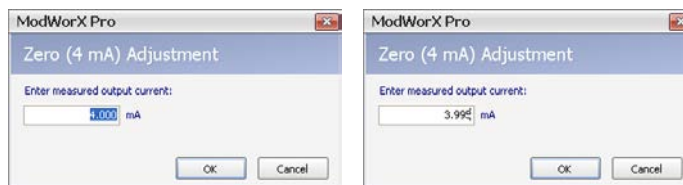
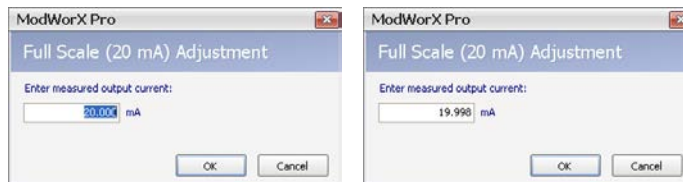
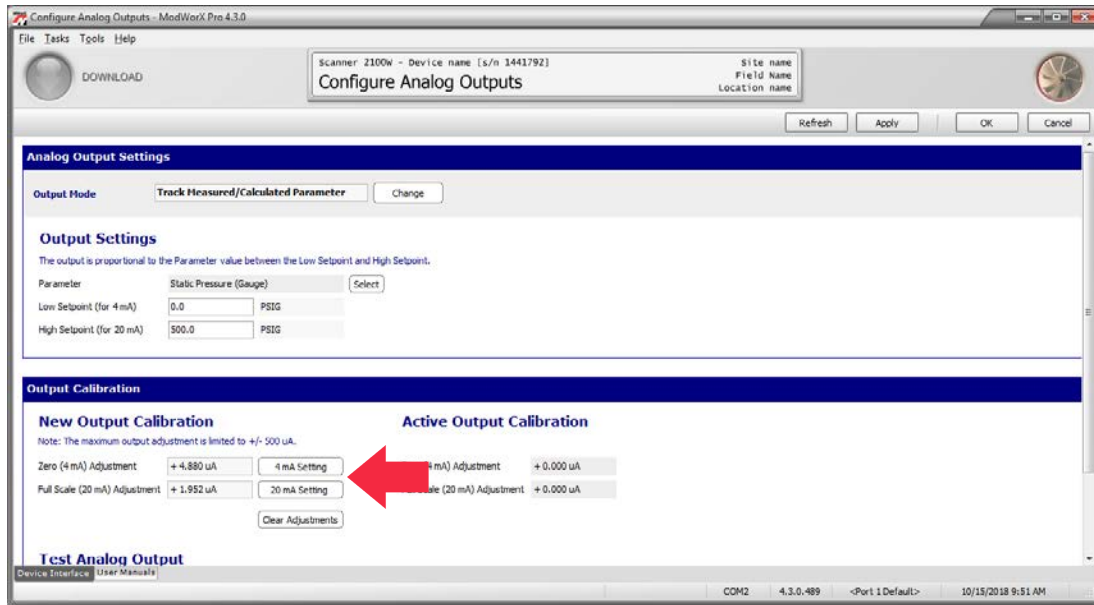

Figure 7.26
Figure 7.27
Figure 7.28
3. Under New Output Calibration, click on the **4 mA Setting** button to send a 4 mA signal from the Scanner to the receiving device. The Zero (4 mA) Adjustment dialog will appear (Figure 7.26, left).
4. Read the output value as read by the receiving device, and enter it in the screen (Figure 7.26, right). Click **OK** to calculate the adjustment. The adjustment will appear in the box next to the 4 mA Setting button (Figure 7.28, page 101).
5. Click on the **20 mA Setting** button to send a 20 mA signal from the Scanner to the receiving device. The Full Scale (20 mA) Adjustment dialog will appear (Figure 7.27, left).
6. Read the output value as read by the receiving device, and enter it in the screen (Figure 7.27, right). Click **OK** to calculate the adjustment. The adjustment will appear in the box next to the 20 mA Setting button (Figure 7.28, page 101).